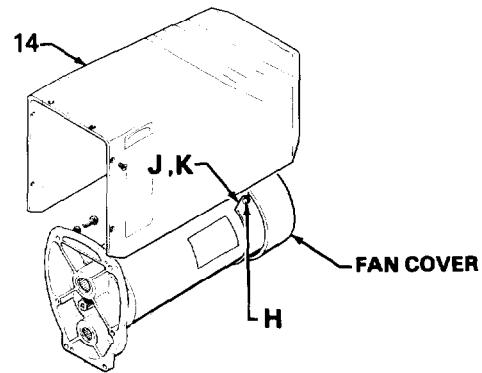

Fig 10
MOTOR BRUSH REPLACEMENT (See Fig 10 and 11)
1. Remove the motor cover (14). See Fig 10.
2. Remove the screws (H), inspection covers (J) and gaskets (K) on each side of the motor. See Fig 10.